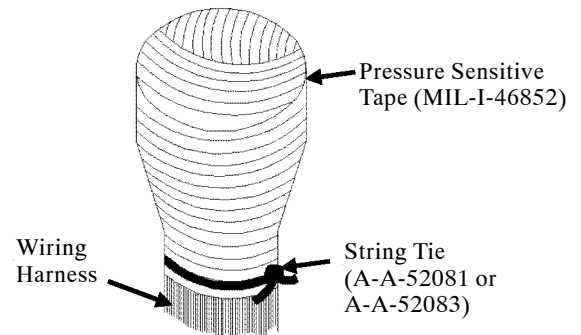

Figure 1. Tape Wrapped Connector
7. If military standard metal covers are not available, ensure connectors are cleaned of contaminants (WP 026 00) and cap off / protect electrical connectors or waveguides with pressure sensitive tape, AA59163-1, MIL-I-46852 (NSN: 5970-00-955-9976), refer to NA 01-1A-509-4 or 5 (Volume IV or V, Chapter 2) (See Figure 1) or capped per paragraph 10a for SWAMP areas. Secure connector per paragraph 10 (a) 6 a thru d, below. In no case will any other tape be used to seal or cap off electrical connectors. Connectors must be preserved before capping and at regular intervals (Navy, see NA 15-01-500) cleaned and re-preserved, refer to WP 026 00 for cleaning and preservation procedures.